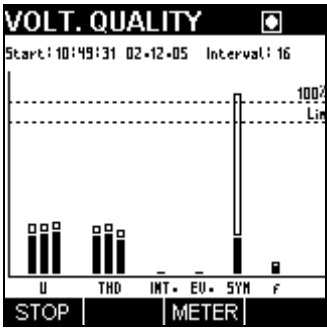

Fig. 9.3: VOLTAGE QUALITY RUN screen
Voltage quality function stores and evaluates following parameters: U_{avg} , dips, swells interrupts, frequency, THD, and unbalance deviation. They are all calculated according to the international standard EN 50160:1999 "Voltage characteristics of electricity supplied by public distribution networks". See section 15.7 for EN 50160 details. User can define nominal voltage and integration period. Additionally he can choose predefined (EN 50160) or customized thresholds values for voltage deviations, dips, swell and interrupt. During and after measurement, bar graph is used to evaluate results and their compliance with the standard. In bar graph following values can be observed (Fig. 9.3):
- U: represent phase voltages deviation from nominal voltage in three bars (L1, L2, L3). Lower (filled) part of bar represent deviation for 95% of data (data: voltage average over logging interval) from nominal voltage in respect to given threshold. Lower this filled bar is, lower is deviation from nominal voltage. However, if this filled bar intersect Lim line on graph, it means that, threshold is crossed and less than 95% data are within given threshold range $\pm 10\%$. Measured values are not according to the EN 50160 standard, Upper, unfilled part of voltage bar (Fig. 9.3) represent maximal deviation from U_{nom} for all data (100%). If this bar doesn't intersect 100% limit line, it means that all data are within $+10\%$, -15% . EN 50160 additionally requires that all measured voltage should be within $+10\%$, -15% range.
- THD: represents total harmonic distortion in three bars (L1, L2, L3), one per each phase. Limit lines (Lim, 100%) shows 8% of THD distortion. Lower, filled part of bar represent 95% of collected data, while upper unfilled bar represent statistic for all data. Therefore, if filled bar doesn't cross Lim line (Fig. 9.3), it mean's that THD is according to EN 50160 standard. If unfilled bar doesn't intersect 100% line, it means that THD was less than 8%, during complete log.
- SYM: represents symmetry (unbalance) for three phase system. Limit lines (Lim, 100%) shows if unbalance was greater than 2%. Lower part of bar represent 95% of data, while upper bar represent all data. If unfilled bar doesn't intersect Lim line, it means that all data are within 2% range. Therefore, if filled bar doesn't cross Lim line (Fig. 9.3), it mean's that unbalance is according to EN 50160 standard. If unfilled bar doesn't intersect 100% line, it means that unbalance was less than 2%, during complete log.
- f: represents frequency deviation, limit line shows 1% of 50Hz. Lower (filled) part of bar (Fig. 9.3) represent 95.5% of data, while upper bar represent all data. If filled bar doesn't intersect Lim line, it means that 99.5% of data are within 1% range. If unfilled bar doesn't intersect 100% line on graph, it means that frequency deviation was never more than 1%. Therefore, if filled bar doesn't cross Lim line (Fig. 9.3), and unfilled bar doesn't cross 100% line (Fig. 9.3) mean's that frequency is according to EN 50160 standard.